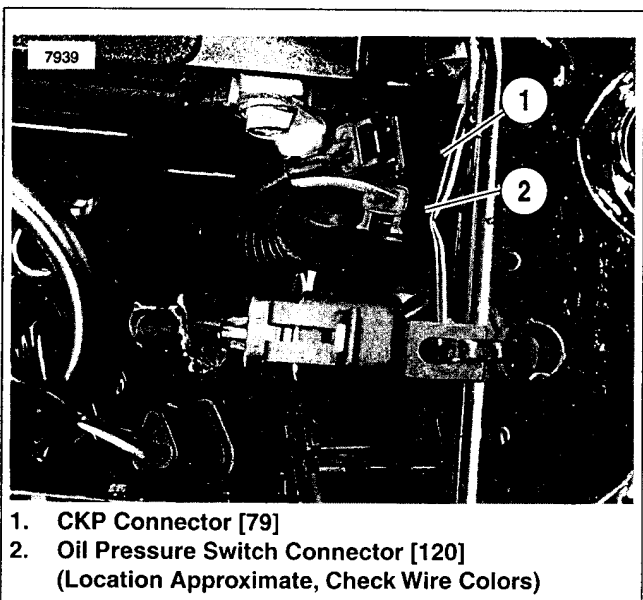

Figure 8-15. Connector Locations
2. See Figure 8-15. CKP sensor wiring is in a sheath combined with the wire from the oil pressure switch.